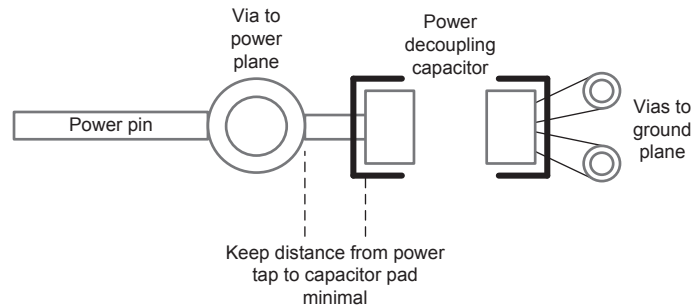

Figure 5. Example of Power Connection and Decoupling Layout Placement
- Power connections must be as short as possible and go immediately to the power plane. Power connections must not be made with controlled impedance traces. Each power or ground lead of a high-speed device must be connected to the PCB through a low-inductance path. For best results, one or more vias should be used to connect a power pin or ground pin to the nearby plane. Ideally, place vias immediately adjacent to the pin to avoid adding trace inductance. Placing a power plane closer to the top of the board reduces the effective via length and its associated inductance. Minimize use of power trace connections. If using a short trace, do not make trace a controlled impedance trace; TI recommends making a connection with the largest connection area (see Figure 5).